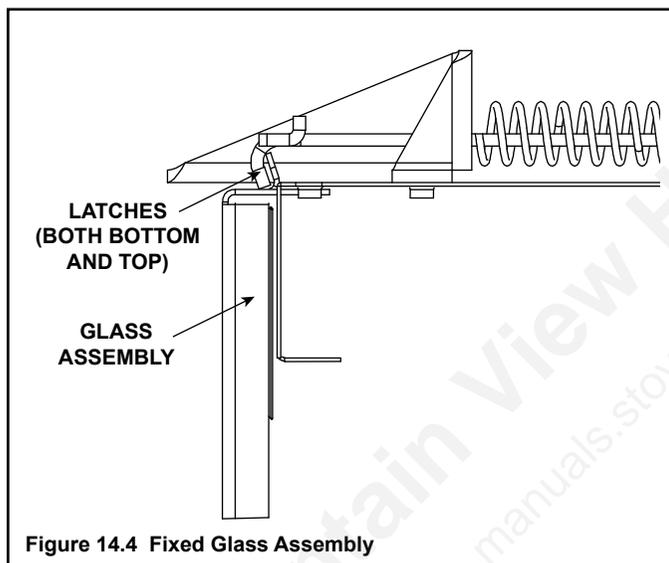

Figure 14.4 Fixed Glass Assembly
- Pull the four glass assembly latches out of the groove on the glass frame. Remove glass door from the appliance (see Figure 14.4).